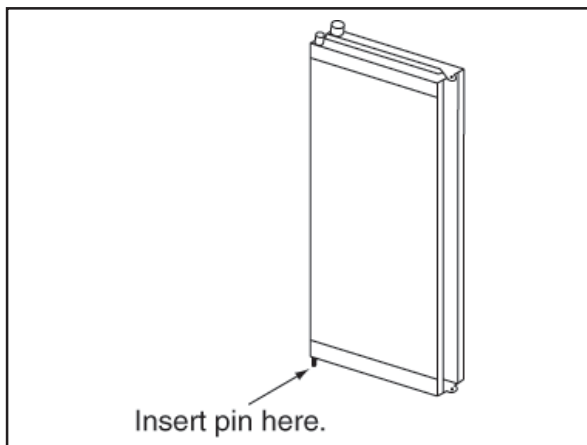

Figure 1 - Insert Pivot Pins
1. Remove the screw and pin from the bottom of the door. Replace with the pin and screw in the enclosed fastener pack. Tighten screw. See Figure 1.